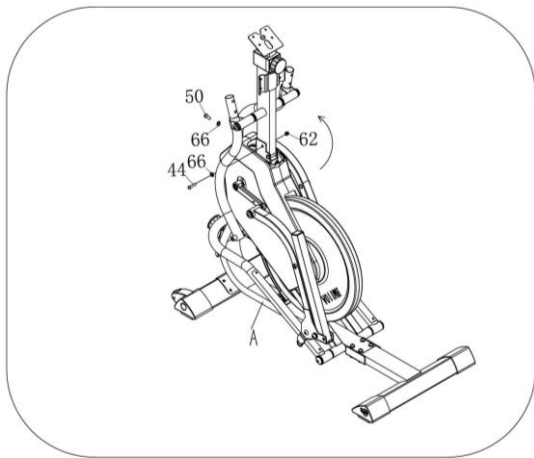

Figure 3
Put the Middle Upright Tube (7) up, Lock the Middle Upright Tube onto the main frame(A) by 1pc Bolt (44) , 1pc Flat Washer (66) and 1pc Nut (62)from the side. Lock the Middle Upright Tube onto the main frame(A) by 1pc Bolt (50) and 1pc Flat Washer (66) from behind, as shown in Figure 3.